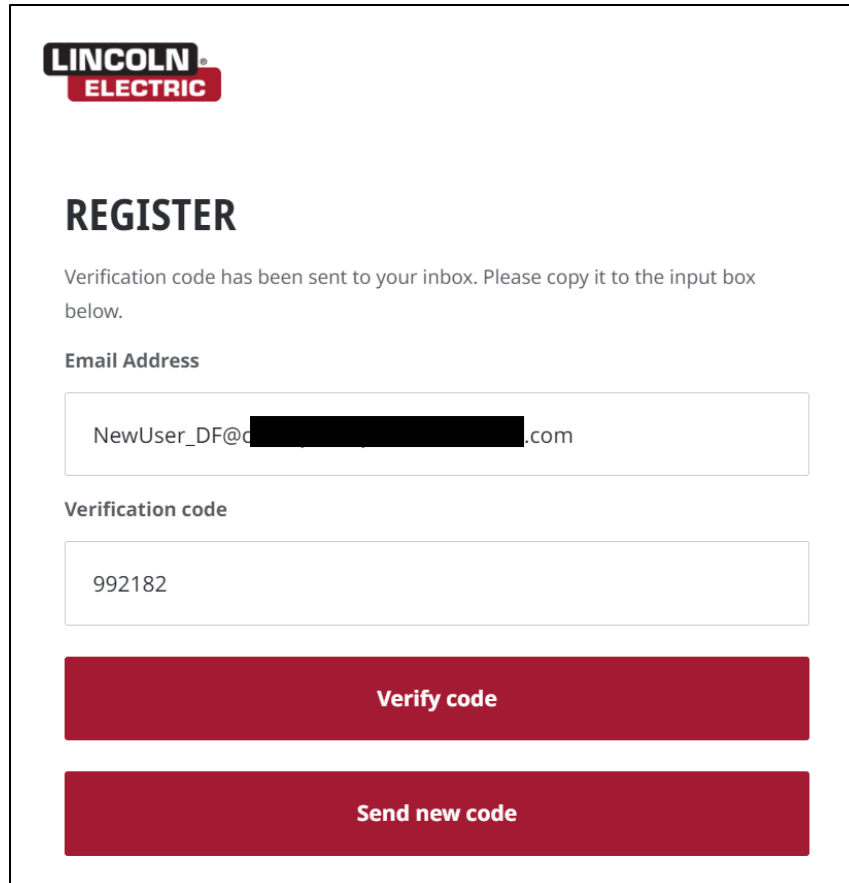

Figure 2.3 Verification Email
To verify your user email address, check your email account's inbox for a message sent from "Microsoft on behalf of Lincoln Electric CheckPoint." Open this email message and note or copy the verification code that is shown. Refer to Figure 2.3
1. Open the email message and note or copy the Verification code shown.	Refer to Figure 2.3.